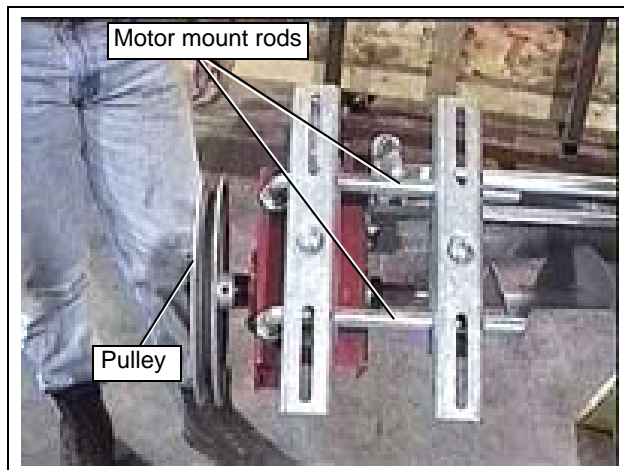

Figure 5W
3. Insert the threaded ends of the motor mount rods into the motor mount. The motor mount rods should be facing away from the pulley as shown in Figure 5W.